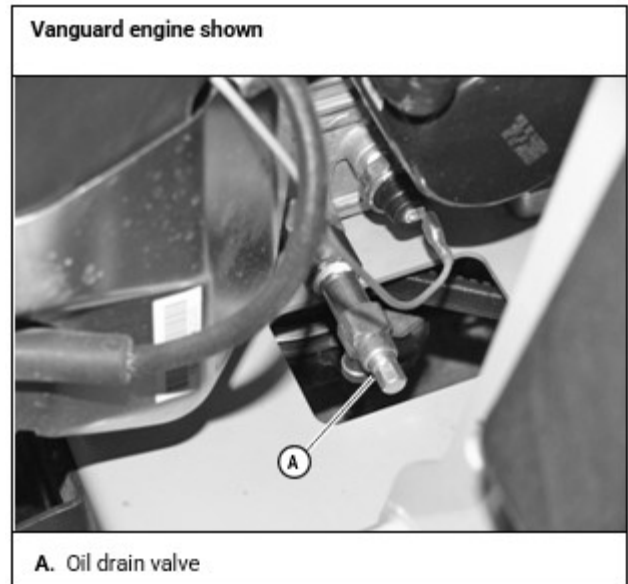
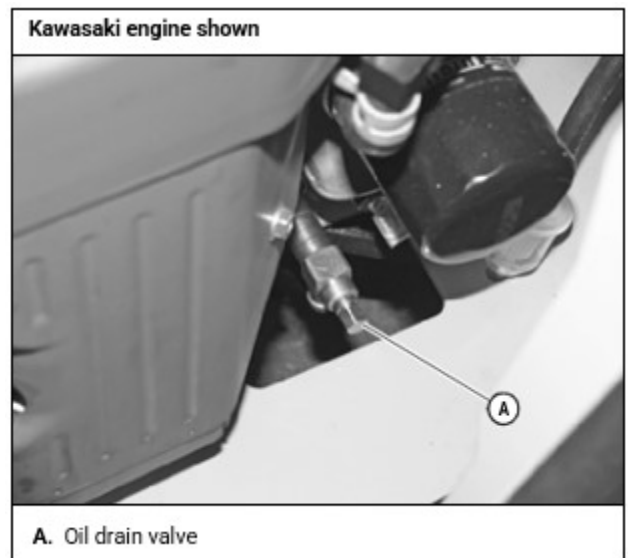

Figure 18
Figure 19
1. Locate the oil drain valve on the engine. [Figure 18] & [Figure 19]